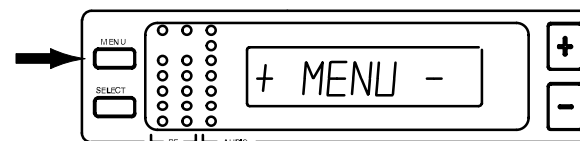

FIGURE 25
1. Press the MENU button. The + MENU – display will appear, as shown in Figure 25.